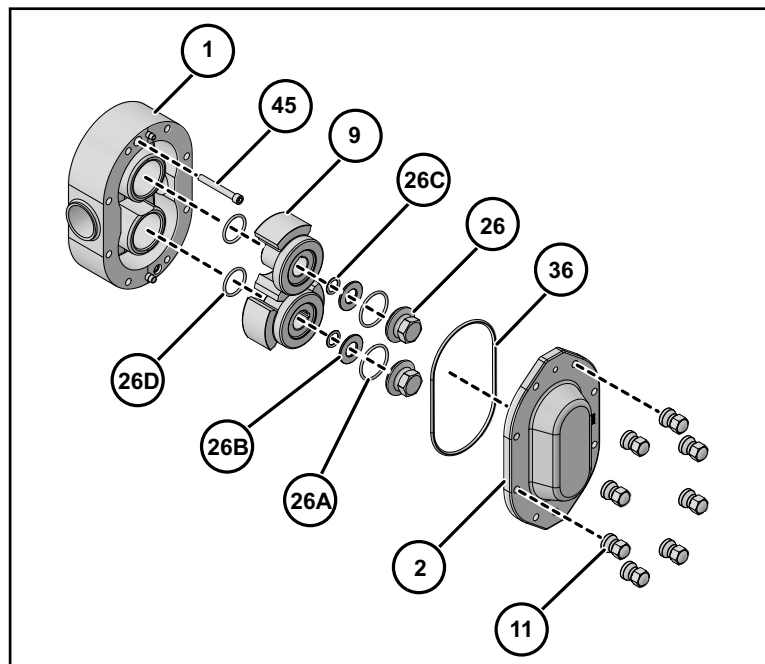
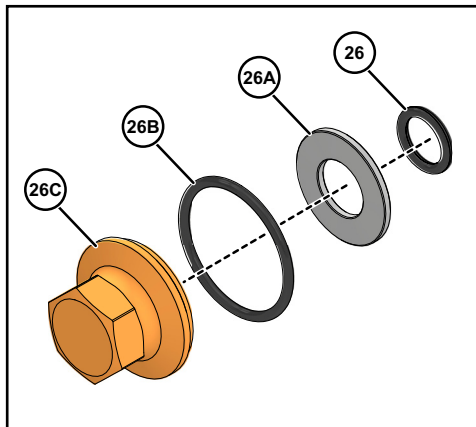
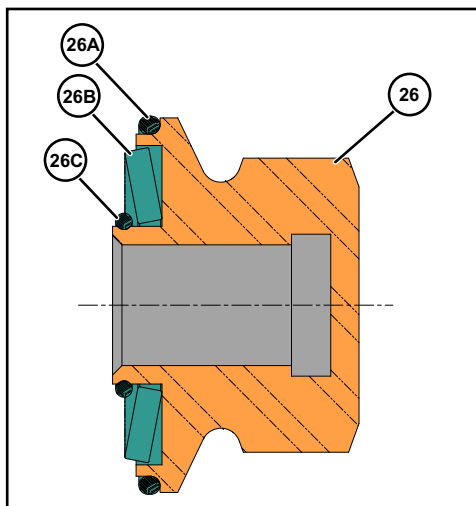

Figure 69 - Exploded View of Fluid Head
Figure 70 - Rotor Nut Assembly
Figure 71 - Cross-Section View of Rotor Nut Assembly, as Assembled
2. Install the body (Figure 69, item 1) to the gear case assembly, aligning the body with the body studs. Avoid damaging the seals as the body is drawn over the shafts.
3. Secure the body to the gear case using two cap screws (Figure 69, item 45).
1. Lubricate the rotor hub O-ring (Figure 69, item 26D) with a lubrication compound compatible with the O-ring material and process fluid(s).
2. Install new rotor hub O-rings (item 26D) into the groove on the rotor hubs.
3. Install the rotors (item 9) onto the shafts.
4. Align the keyways in the rotors with the keyways on the shafts and install the keys (item 26E).
NOTE: For rotor nut assembly detail, including orientation of the belleville-style washer (item 26B), see Figure 70 and Figure 71 on page 51.
See Figure 69 on page 50, and Figure 70 and Figure 71 on this page.
1. Clean the cover O-ring (See Figure 69 on page 50, item 36) and install it in the groove in the cover.
3. Install the cover (See Figure 69 on page 50, item 2) on the pump body.
5. Tighten the cover securely using the cover nuts (See Figure 69 on page 50, item 11) and Table 12.